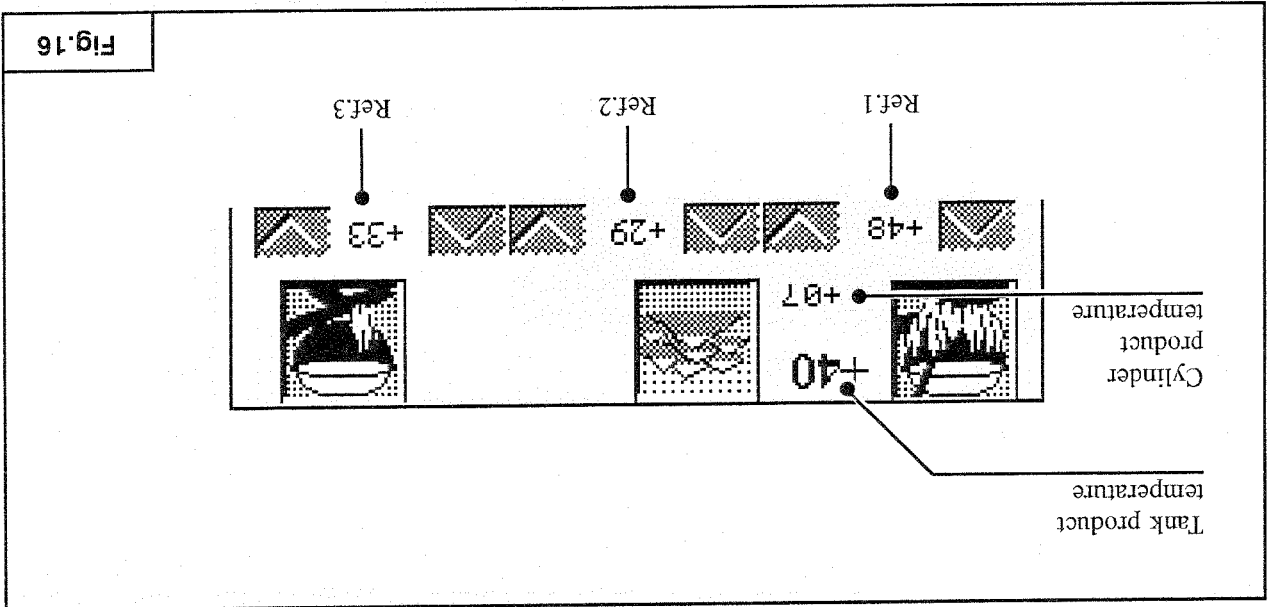

Fig.16
First heating temperature (Ref.1-Fig.16), cooling temperature (Ref.2-Fig.16) and second heating temperature (Ref.3-Fig.16) can be modified by operator through relevant push-button  and .
- Product dynamic heating up to temperature set (Ref.1-Fig.16); when heating cycle is complete, the monitor displays what shown in picture 17. From this moment ahead, the "cycle end" warning buzzer can be either enabled or disabled by operator, as described herebelow:
Product is cooled down up to reach temperature set (Ref.2-Fig.16).
Product is heated up to reach temperature set (Ref.3-Fig.16).